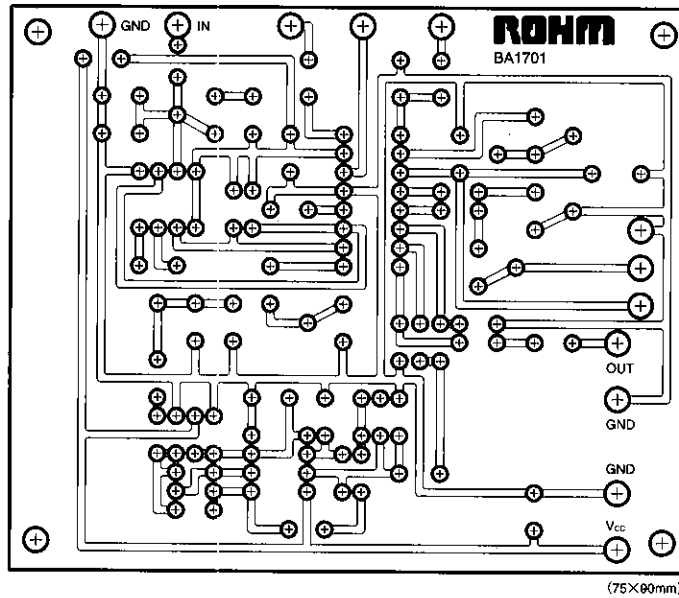

Fig. 6 Application circuit PCB (solder sider)
- (1) Use accurate film capacitors for the VCO time constant capacitor C_{14} ($0.22 \mu\text{F}$), the RAMP time constant capacitor C_{17} ($1 \mu\text{F}$), and the BBD clock time constant capacitor ($0.0047 \mu\text{F}$).
- (2) If the AF output pin (pin 8) has a capacitive load, you must take precautions to ensure that the BA1701 AF amplifier does not oscillate. We recommend that you insert R_{19} (about $10\text{k}\Omega$) in the signal output line.
- (3) To prevent oscillation, position the earth point of the BBD clock time constant pin (pin 9) close to the GND pin (pin 13) (see Fig. 6).